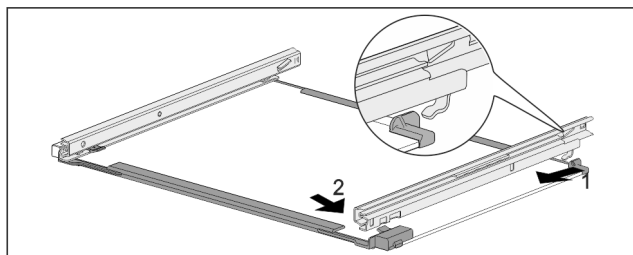

Fig. 195 Glass shelf with rails
- Hook in rail at the back. Fig. 195 (1)
- Hook in rail at the front. Fig. 195 (2)